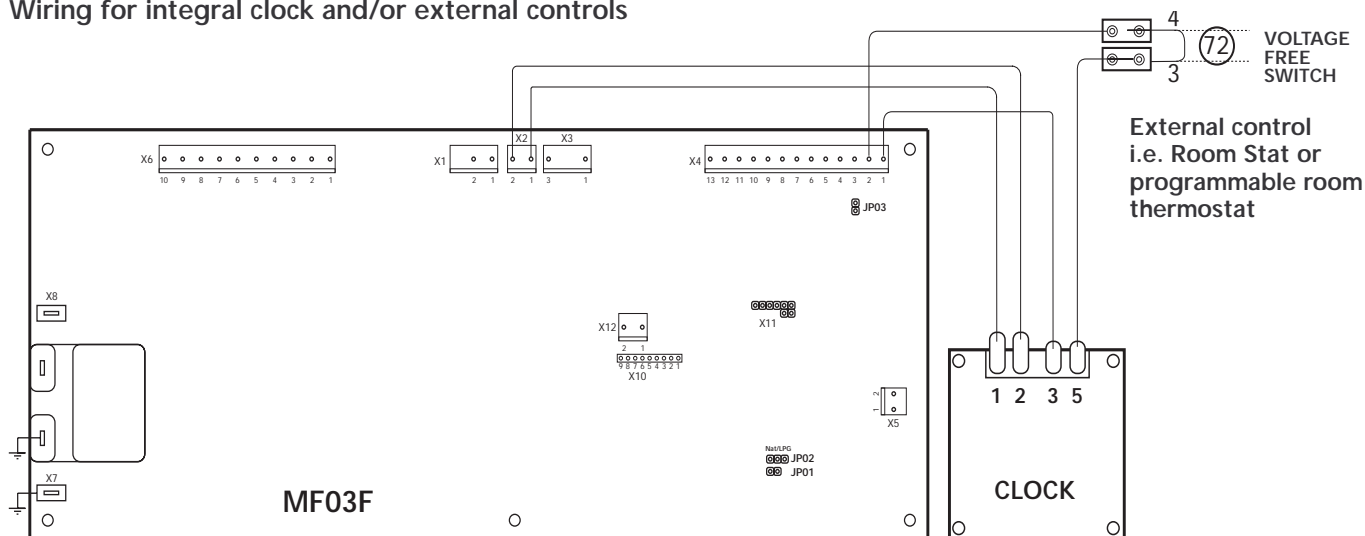

Fig. 21b
### 3.12 Installing a room thermostat (72) (fig. 21b)
Connect the room thermostat (72) as shown in figure 21b.